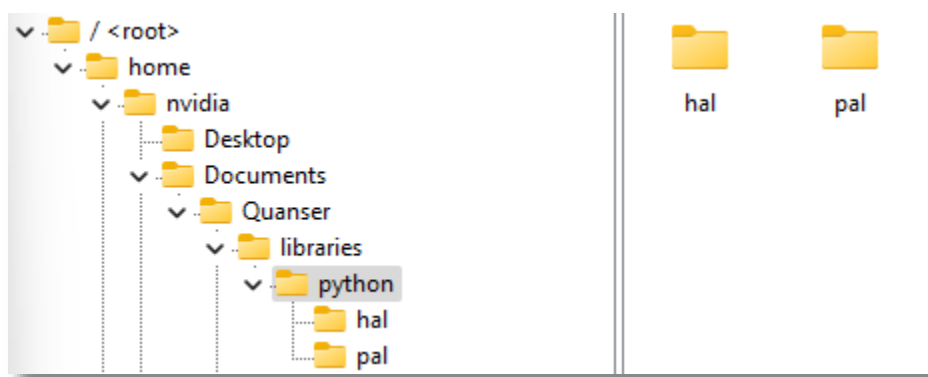

Figure 2. 'hal' and 'pal' folder in correct directory
- b. navigate to "`~\Documents\Quanser\libraries\python`" on the QBot Platform as shown in Figure 2, create these directories if they don't exist. Copy over the "hal" and "pal" folder from your local Windows machine, replacing existing files on QBot.